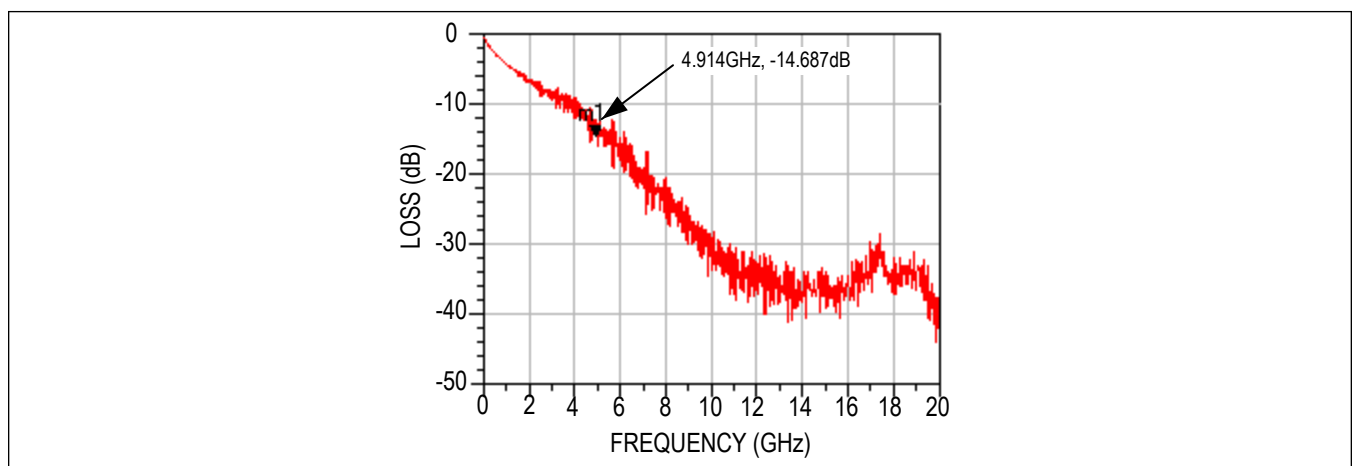

Figure 7. Channel Loss Curve (30in Nelco)
- 30in Nelco Traces = -14.7dB loss at 4.914GHz (see Figure 7)